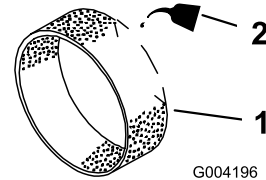

Figure 26
3. Put one or two ounces of oil on the pre-filter (Figure 26).